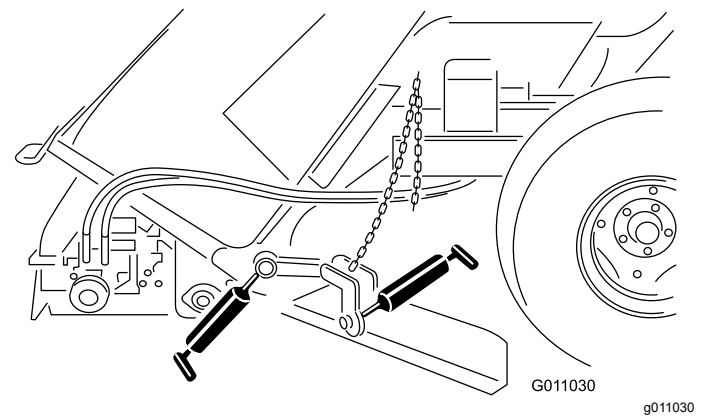

Figure 38
- Windrow blade mount (Figure 38)
- Windrow blade hub (Figure 38)